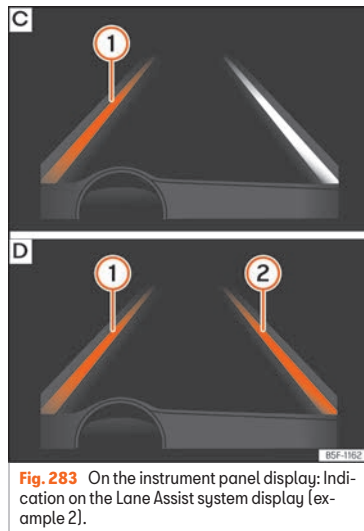

Fig. 283 On the instrument panel display: Indication on the Lane Assist system display [example 2].
- **Fig. 283 [C]:** The system is operational, the highlighted line ① indicates that there was a risk of involuntarily crossing the lane line and that the steering is being adjusted to correct the angle.
- **Fig. 283 [D]:** The two highlighted lines ① and ② light up simultaneously when both lane lines are recognised and the Lane Assist function is activated.